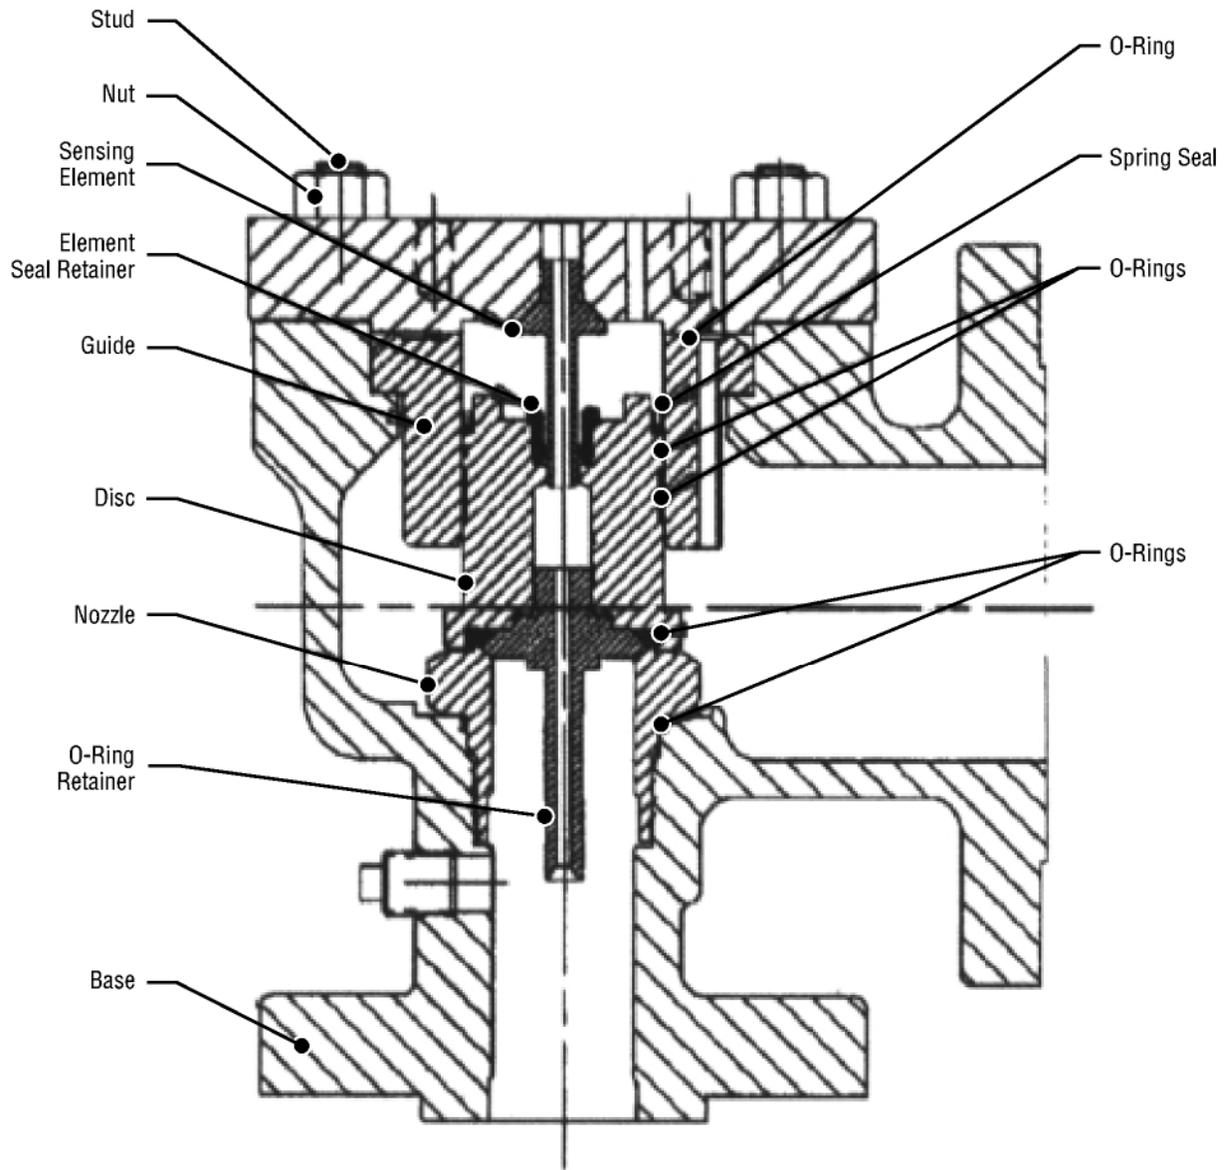

Figure 3
3. Remove the spring shield (refer to Figure 3).
(refer to Figure 3 for Main Valve nomenclature)